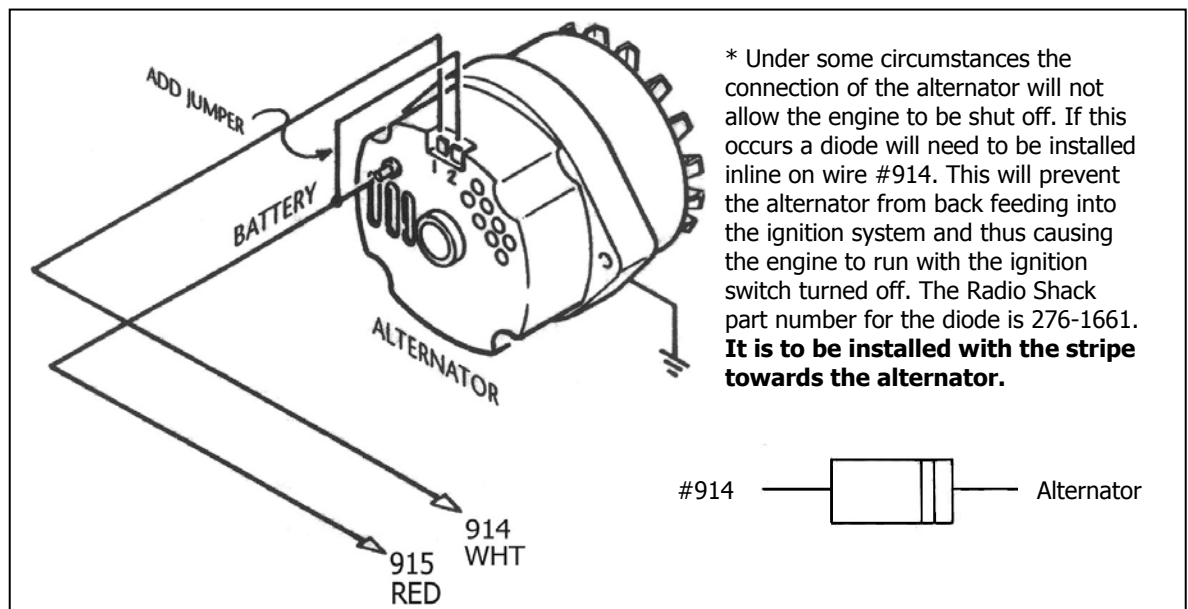

Figure 7-2A Late GM Alternator - Internal Regulator
7.2 Late GM Alternator (after 1972) - Internal Regulator. See Figure 7-2A.
** If you do not have a One Wire alternator refer to Figure7-2A.